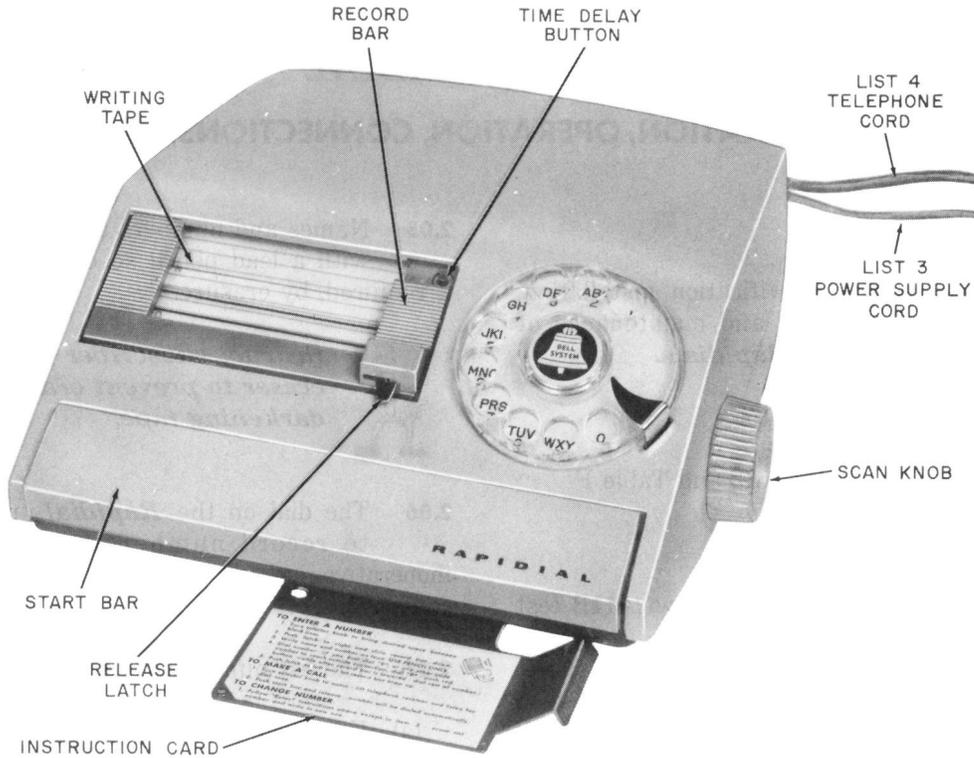

Fig. 1—KS-16844, List 1 *Rapidial*
2.01 The KS-16844 *Rapidial* (Fig. 1 and 2) is a magnetic-type repertory dialer used in conjunction with a customer telephone set. It records, stores, and transmits dial pulses.